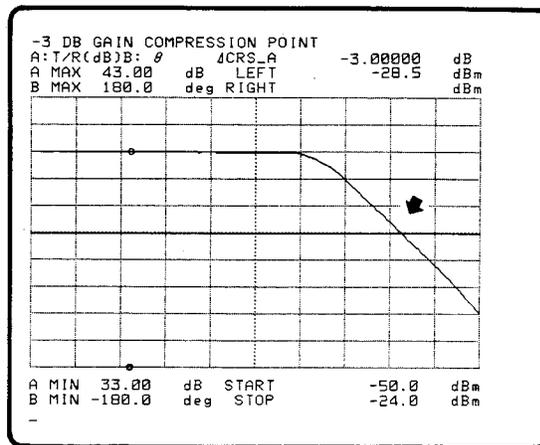

Figure 3-50. -3dB Gain Compression Point
- ENTER/EXECUTE**  Executes the commands using the data entered. Pressing this key moves the line cursor to the -3dB position. Figure 3-50 shows the -3dB gain compression point data. The Line Cursor (LEFT) magnitude is the input level at which the amplifier has a gain compression of -3dB.